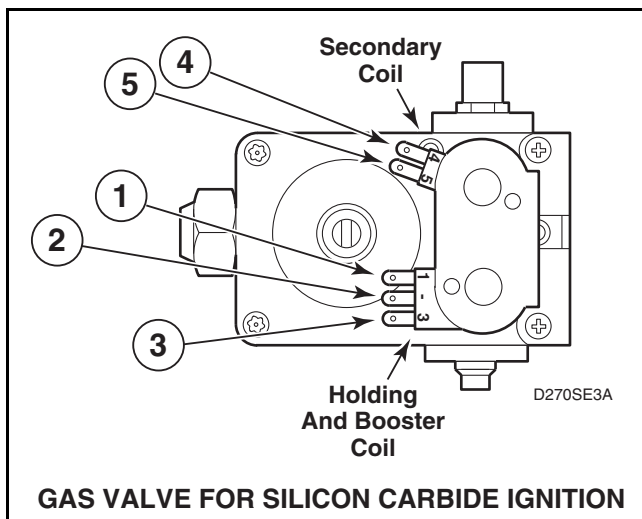

Figure 37
- d. Remove valve wire harness disconnect block from the holding and booster coil. Refer to *Figure 37*.
- e. Set test meter to read Ohms and put meter probes to terminals shown in *Figure 37*, and in the following chart.